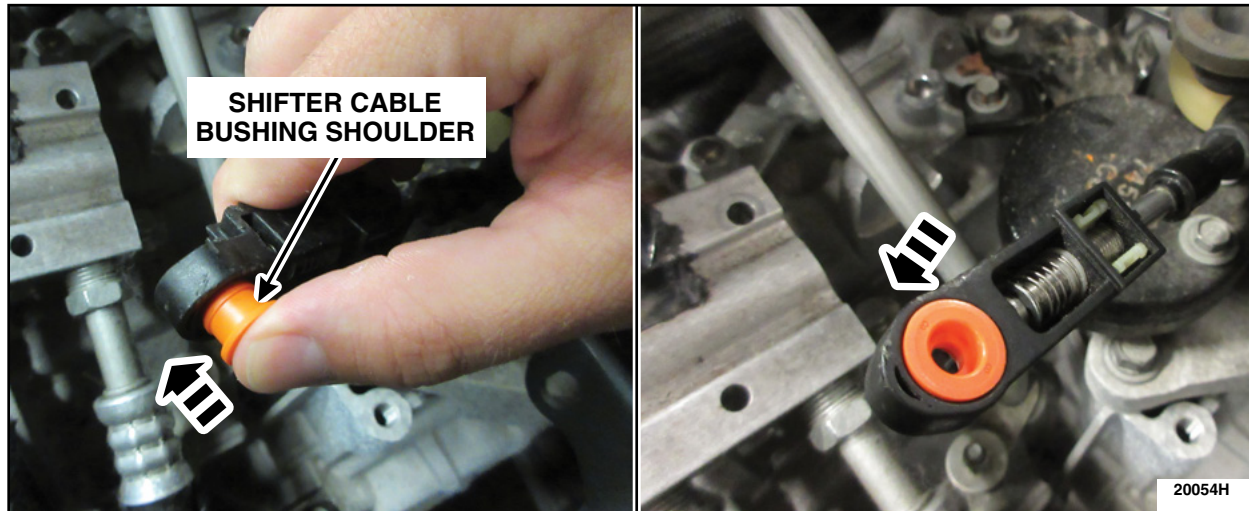

FIGURE 6
7. Using your hands only, install the new selector lever cable bushing. Do not use any grease to install, the bushing and cable end should be dry. See Figure 6.